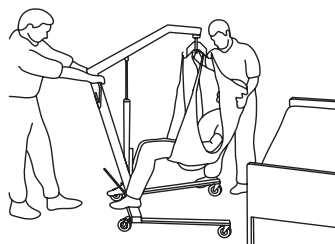

FIGURE 4.4 Lifting/Moving the Patient
NOTE: For this procedure, refer to FIGURE 4.3 and FIGURE 4.4 on page 29.
NOTE: When the patient is lifted from the bed (with the patient's head supported by the sling and/or an assistant), he/she will be raised to a sitting position (Detail "A" of FIGURE 4.4 on page 29).
3. Swing the patient's feet off the bed when the patient is clear of the bed surface (Detail "B" of FIGURE 4.4 on page 29).
5. Turn the patient so that he/she faces the assistant operating the patient lift when moving the patient lift away from the bed (Detail "C" of FIGURE 4.4 on page 29).